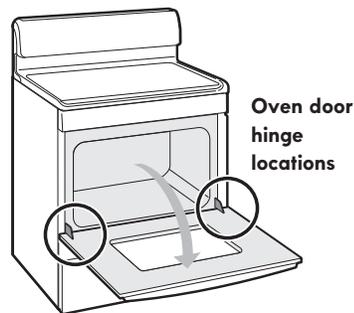

Figure 22: Oven hinge locations
1. Open oven door completely, horizontal with the floor (See Figure 22).
3. Fully open the oven door, horizontal with floor (See Figure 22).